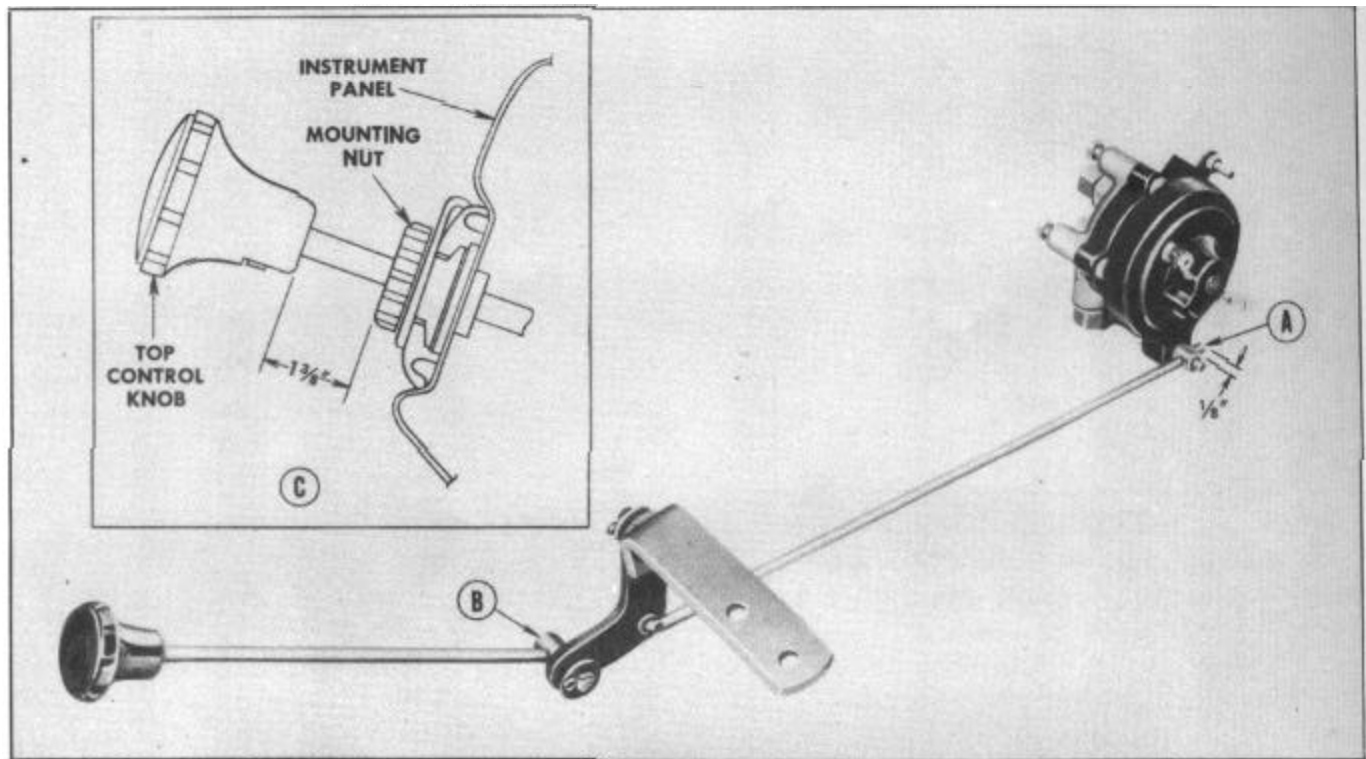

FIGURE 111
1. Loosen the retaining screw at A, Figure 111, and adjust control rod so that 1/8" extends thru the retainer as illustrated. Tighten retaining screw (A) securely.
2. Loosen the retaining screw at B and adjust the control knob to the 1-3/8" clearance as shown at C. This 1-3/8" adjustment is made with the control valve in the neutral position. Tighten retaining screw (B) securely after adjustment has been made.